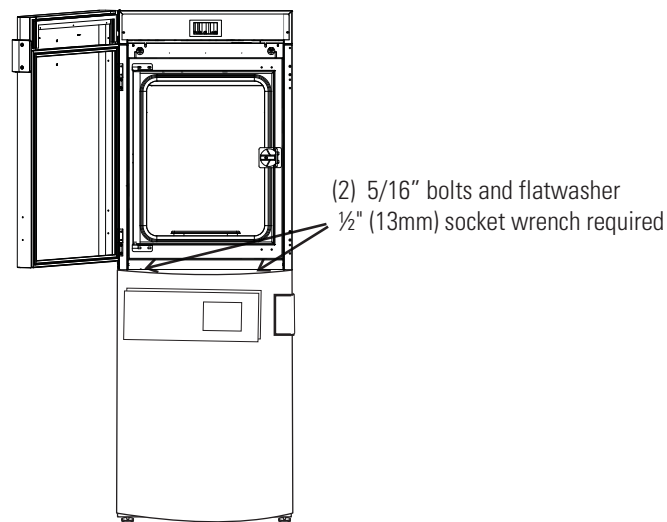

Figure 1-5. Align Slots and Bolts
5. Align the sides of the top unit and bottom unit and slide the top unit forward until the slots in the base of the top unit align with the 5/16"-18 stacking bolts in the exterior top of the bottom unit (Figure 1-5).